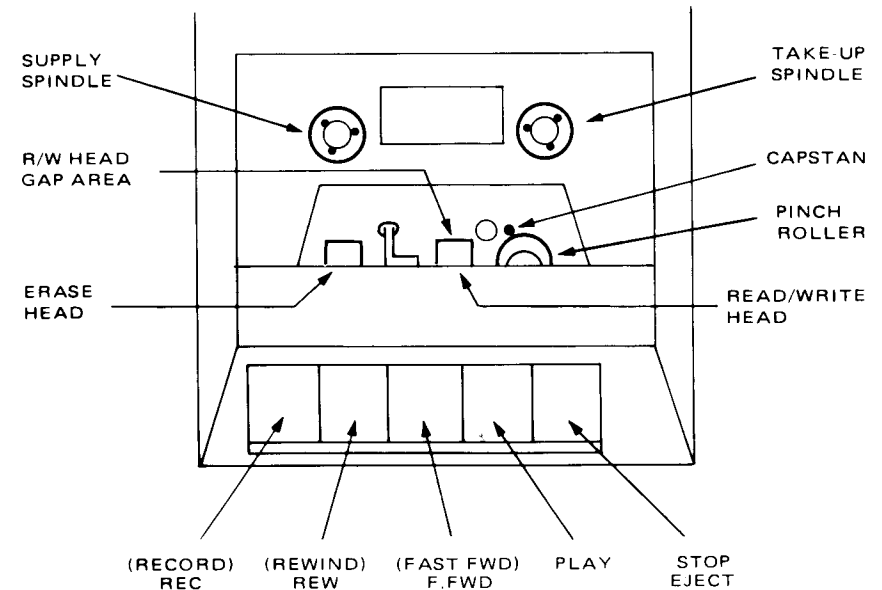

Figure 3. MECHANICAL COMPONENTS LOCATION
- STEP 2. Press "PLAY" and check the movement of the tape heads toward the spindles and the engaging of the capstan by the pinch roller (see Figure 3). The take-up spindle should be moving smoothly in a counterclockwise direction.